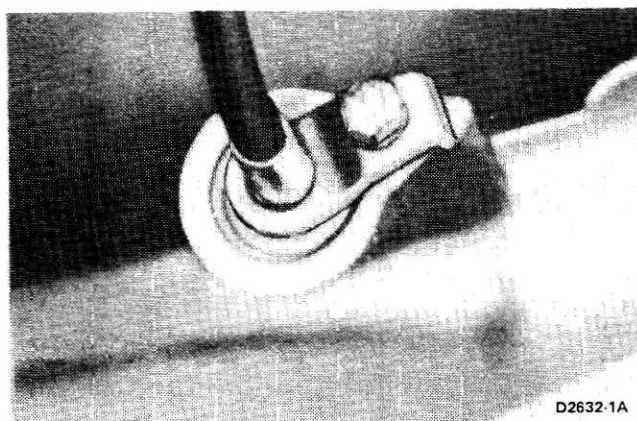

FIG. 5 Speedometer Cable and Bracket
7. Remove the speedometer cable from the extension housing (Fig. 5).